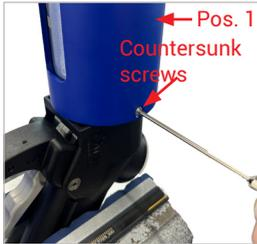

Figure 7
- ▶ Unscrew the two countersunk screws from the impact protection sleeve (Pos. 1) using an allen key AF2 (Figure 7).